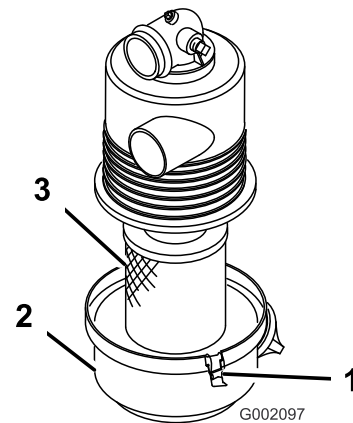

Figure 25
3. Release the latches securing the air cleaner cover to the air cleaner body. Separate the cover from the body. Clean the inside of the air cleaner cover (Figure 25).
4. Gently slide the filter out of the air cleaner body to reduce the amount of dust dislodged (Figure 25). Avoid knocking the filter against the air cleaner body.